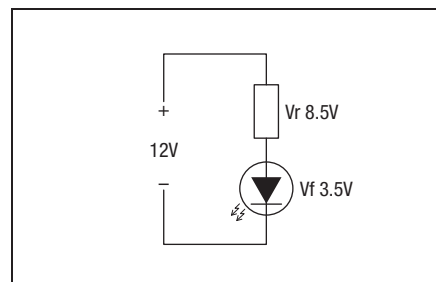

Fig. 4 LED circuit. In this circuit V_r is the voltage across the resistor and V_f is the forward-biased voltage drop across the LED.
The circuit in **fig. 4** uses this LED and a 12V power source. First I'll calculate the voltage across the resistor (V_r), which is Total voltage (V) - the resistor's V_f value or $12V - 3.5V$ or $8.5V$.